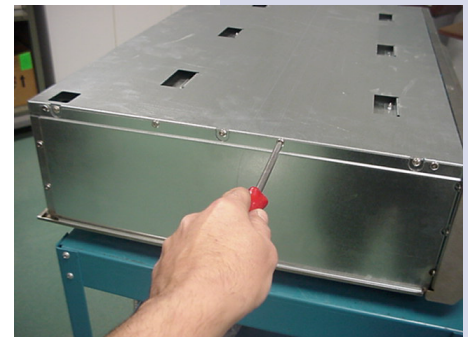

Figure 2
- 2. To remove the 2 heat shield panels, you must remove the 6 screws on each side. (Figure 2)